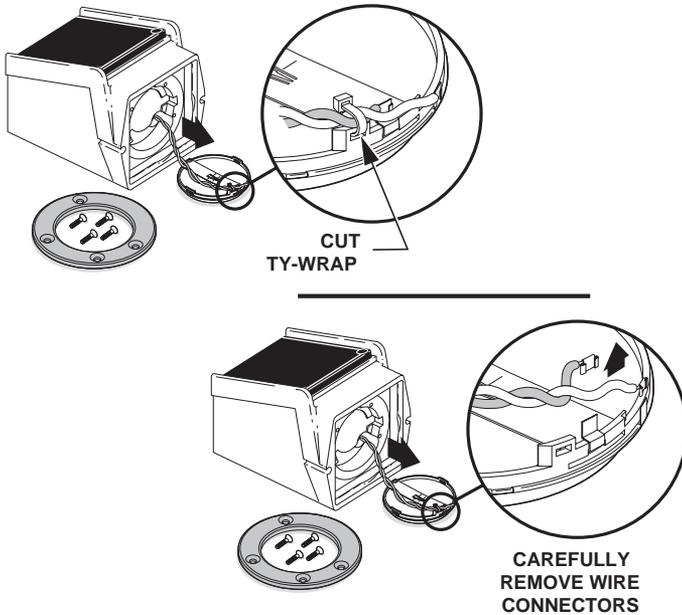

Figure 8-3. Remove Transducer, Cut Ty-Wrap, and Remove Connectors
3. Gently pull out the transducer and use a SMALL pair of dikes to gently cut the Ty-Wrap, then remove the small wire connectors from their tabs (Figure 8-3 on page 8-5).